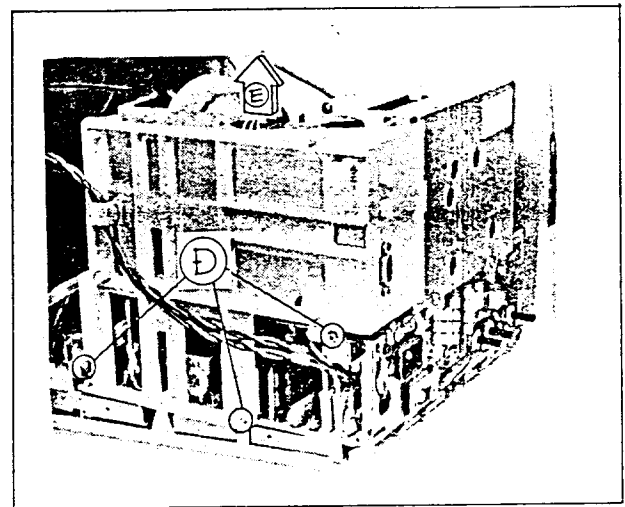

FIG. 7
1. Remove the three screws marked (D) shown in Fig. 7.
2. Then remove the INPUT PC Board to allow direction marked (E) shown in Fig. 7.